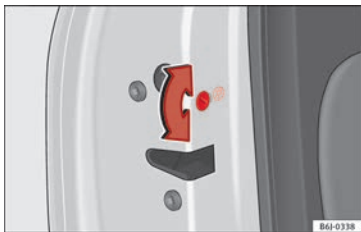

Fig. 121 Childproof lock on the left hand side door.
- With the door open, rotate the groove in the door using the ignition key, anti-clockwise for the left-hand side doors »» **Fig. 121**
- With the door open, rotate the groove in the door using the ignition key, anti-clockwise for the right-hand side doors, and clockwise for the left-hand side doors »» **Fig. 121**.